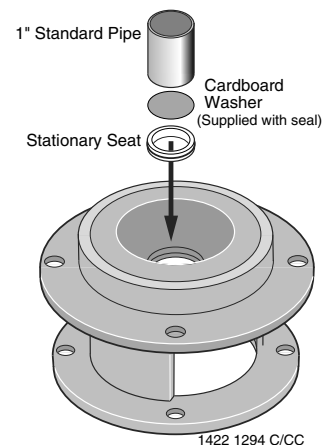

Figure 5
5. If seal does not seat after re-cleaning adapter/seal plate cavity, place a cardboard washer over polished face of seal and carefully press into place using a piece of 1" standard pipe as a press (Figure 5).